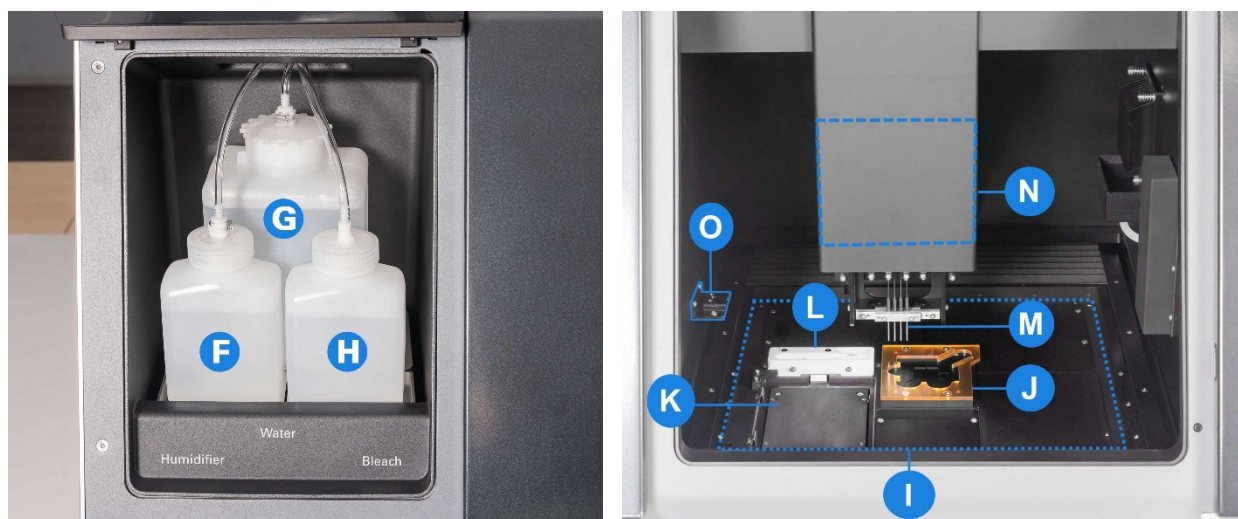

Figure 6. The Shasta instrument (internal view).
- Fluidic Source bottles (Figure 6, left)
- Behind the right-hand door, the environmental chamber (Figure 6, right):